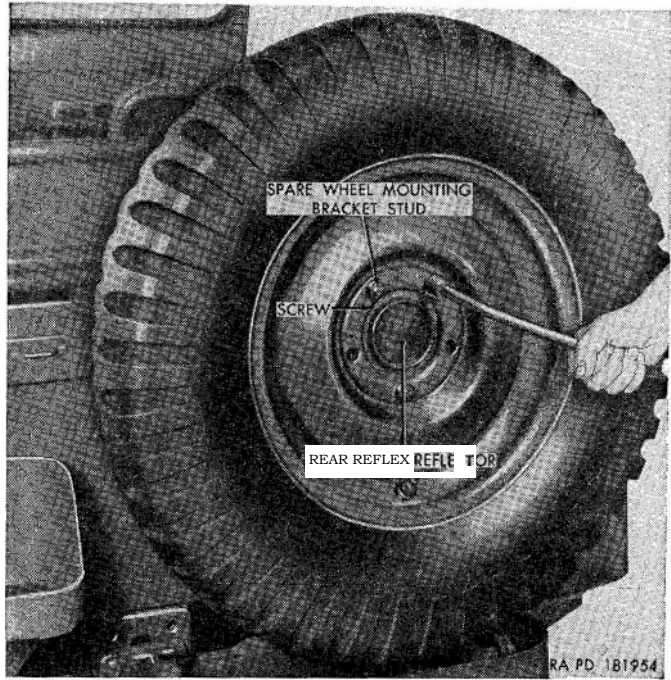

Figure 172. Spare wheel and tire (M 8A1).
- (1) Remove the three nuts securing the spare wheel and tire to the spare wheel mounting bracket studs (fig. 172).
- (2) Remove the spare wheel and tire.